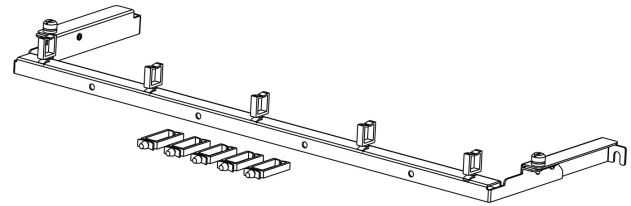

Figure 1. CBS-200
**1.1** The NAC CBS-200 is a pivoting bar designed for cable management on a 19" rack. The CBS-200 is 5.6". The pivoting bar can swing down 45° to allow clearance for equipment maintenance or service installs without disrupting other services. The bracket comes with holes for cable ties and plastic rings for fiber. Refer to figure 1 and 2 for reference.